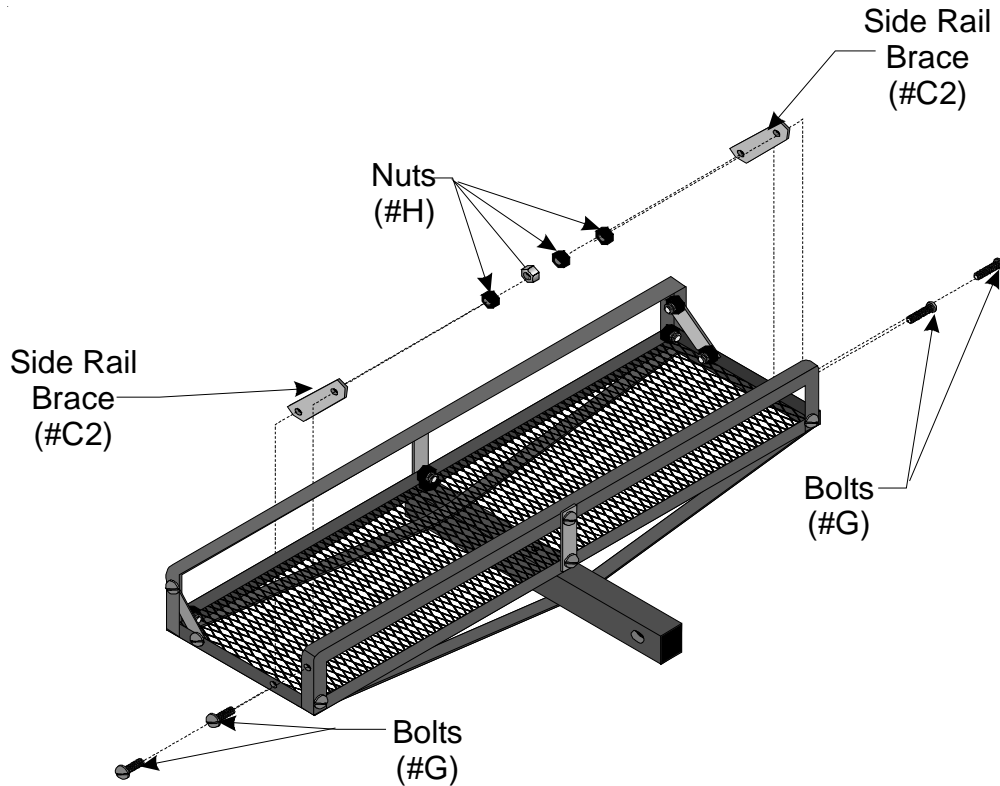

Figure 5 — Attaching Corner Side Rail Braces
- Step 4: Attach a SIDE RAIL BRACE (#C2) to the inside vertical folded edges of the corner of the Carrier Assembly as shown in Figure 5. Attach with two BOLTS and two NUTS. Tighten the NUTS.